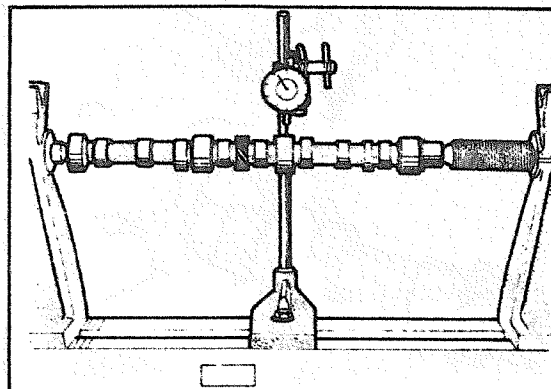

Fig. 31 Checking the Camshaft for Bend
2. Check the camshaft for bend. If the bend exceeds the repair limit, correct or replace the camshaft. (Fig. 31)